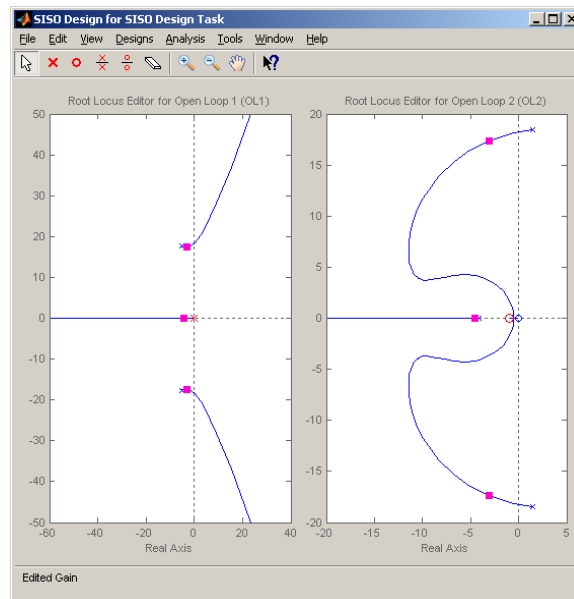

Figure 8: Root Locus for I-PD controller
15. If you entered the controllers correctly, you should get the root locus plot shown in Figure 8.